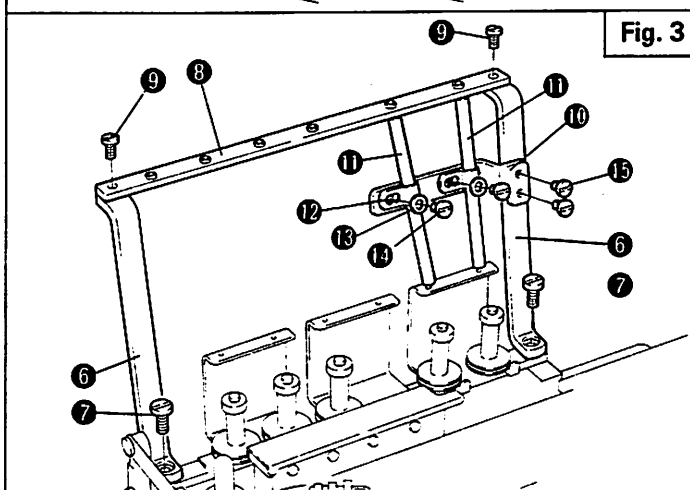

Fig. 3
3. Refer to Fig. 3 and attach Thread Guides ⑥ – ⑮ in sequence.